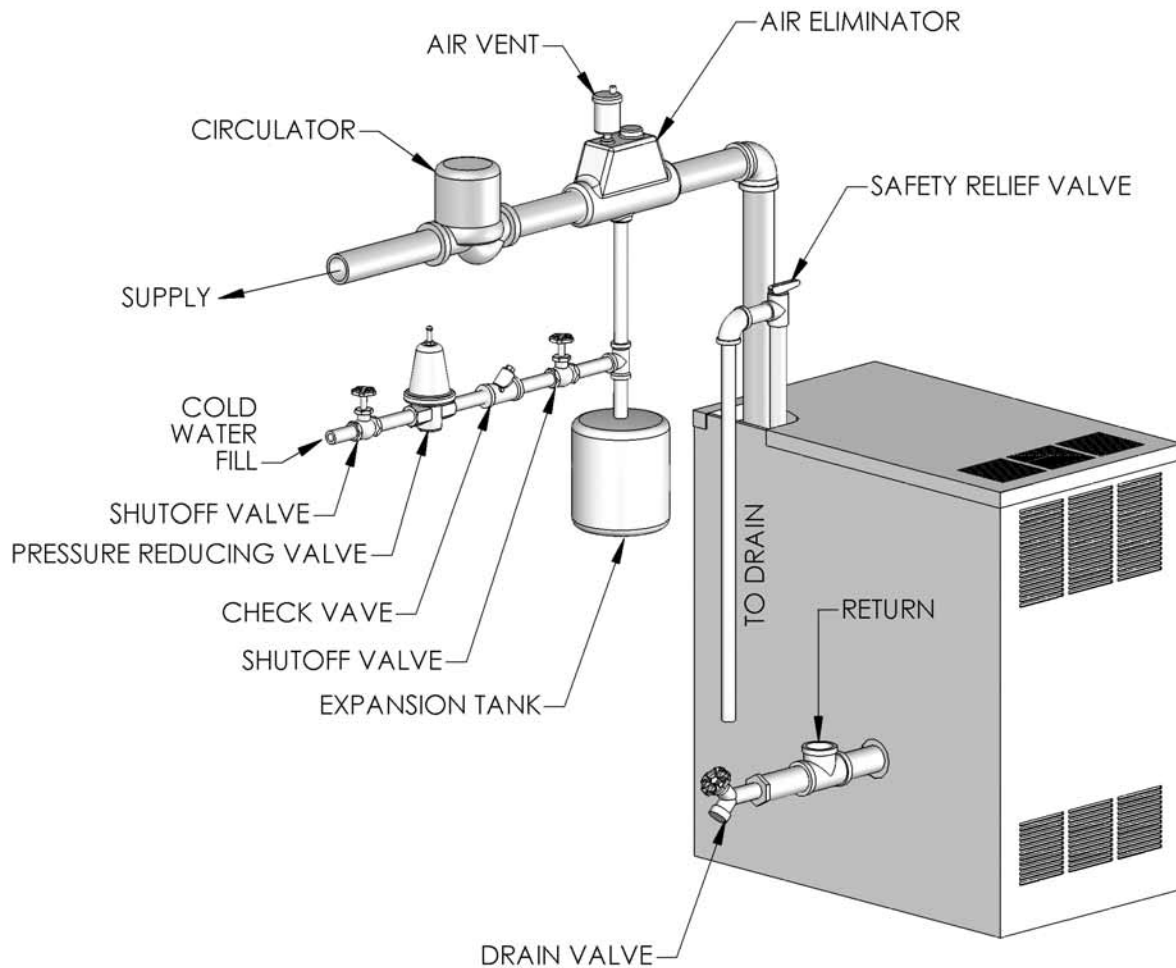

Figure 3.1: Supply and Return Piping
1. Size the supply and return to suit the system. A typical piping arrangement is shown in Figure 3.1. Refer also to the I=B=R Guide to Residential Hydronic Heating Installation/Design for additional guidance during water piping installation.
5. If desired, install the circulator in the alternate location shown in Figure 3.1.
Refer back to Figure 3.1 for typical expansion tank piping.